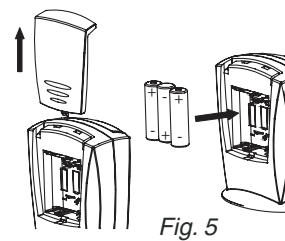

Fig. 5
Remove battery compartment cover and insert three LR6 (AA) alkaline batteries as shown in Fig. 5.
First, place the chime close to the door push (within 8m/ 25ft) to program the chime and check that it is working. Press the door push until the chime responds with a tune. You can leave this tune or change the tune by using button A (see Fig. 5, sound selection).
First remove decorative cover and replace with three LR6 (AA) alkaline batteries. (Fig. 5) When replacing batteries the chime is still programmed and can be used straight away.